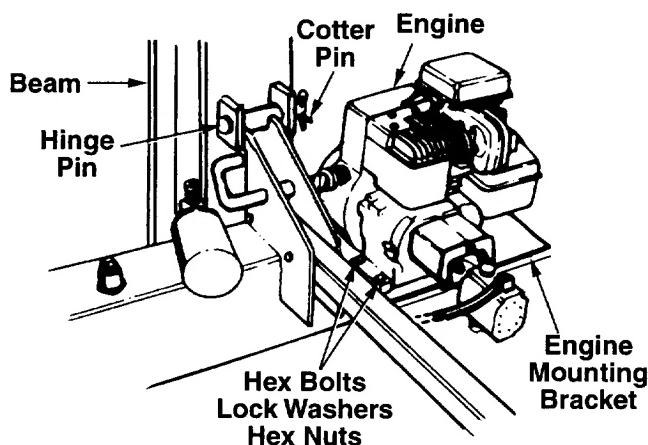

FIGURE 7.
3. Remove the cotter pin and the hinge pin, located beneath the beam assembly. Move the reservoir tank assembly in position against the beam. See figure 7. Line up holes by lifting hitch end of assembly.
Place the engine and pump assembly in position on the engine mounting bracket as shown in figure 7. Secure with hardware found in the plastic bag. Insert hex bolts from the top. Secure with lock washers and hex nuts, tightening securely.